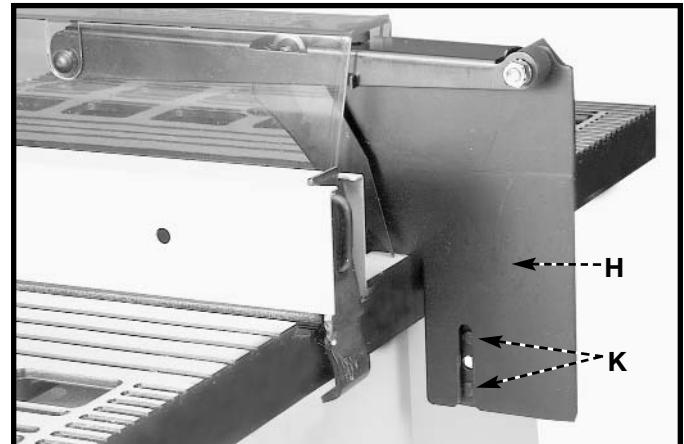

Fig. 21
- Position the splitter (H) Fig. 21 against the splitter support bracket, making certain the two protrusions (K) on the splitter support bracket are inside the slot of splitter (H).